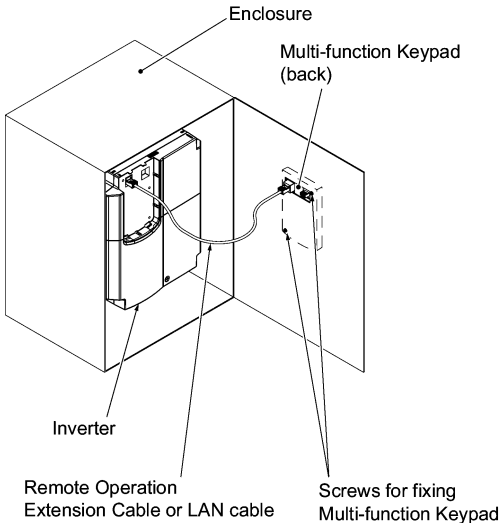

Figure 2.2 Installing Multi-function Keypad on Enclosure
- Install it on the front panel of enclosure (see Figure 2.2).